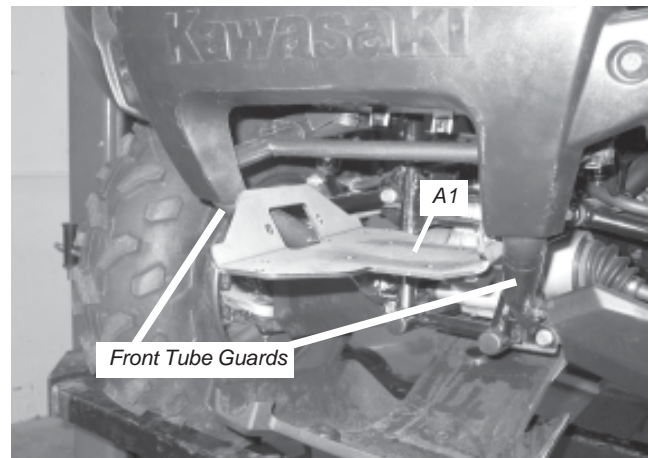

Figure 2 Install Winch Mounting Plate
2. Place winch mounting plate (A1) sideways in between the front tube guards and vehicle frame, Figure 2.